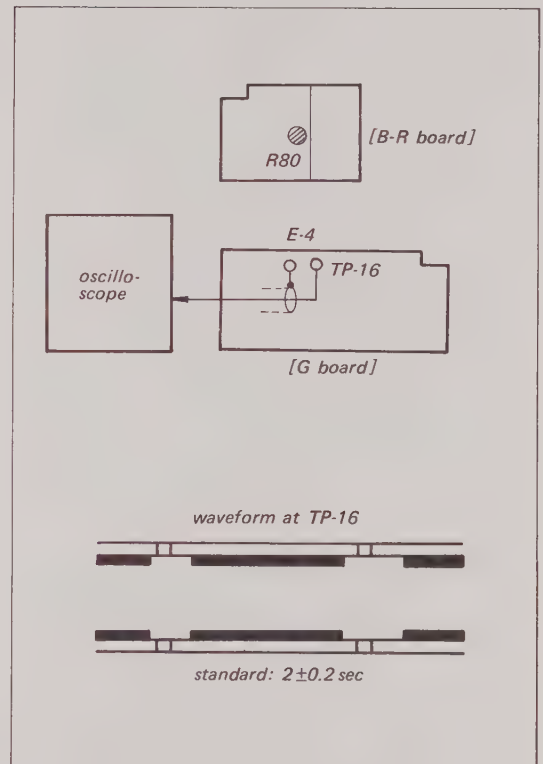

Fig. 7-14. Record muting interval
2. Connect the scope to TP-16 on the G board. See Fig. 7-14.
3. Set up the record mode. (Be sure that the Record Safety Switch (S6016) is closed by taping down the actuator wire.) Time the interval between the instant the STAND BY lamp goes out and r-f appears at TP-16. See Fig. 7-14.